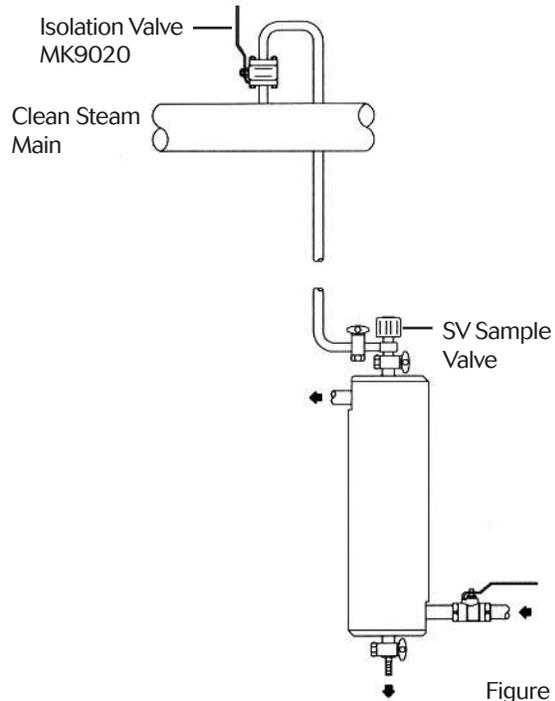

Figure 2
If the steam supply is to be isolated with a valve adjacent to the steam main (Fig. 2) then the system connection of the SV should be connected to the inlet of the SC60 as illustrated. When installed in this orientation any residual condensate formed in the supply pipework will flow freely through the sample cooler once the main steam line is closed.
isolate the cooling water supply (2). If sampling steam, and the supply is to be isolated at the steam main (Fig. 2), both the sample and cooling water valves should be left open after isolation of the steam supply to allow any residual heat energy in the supply pipework to dissipate. Once the system has cooled, the water supply may be isolated.